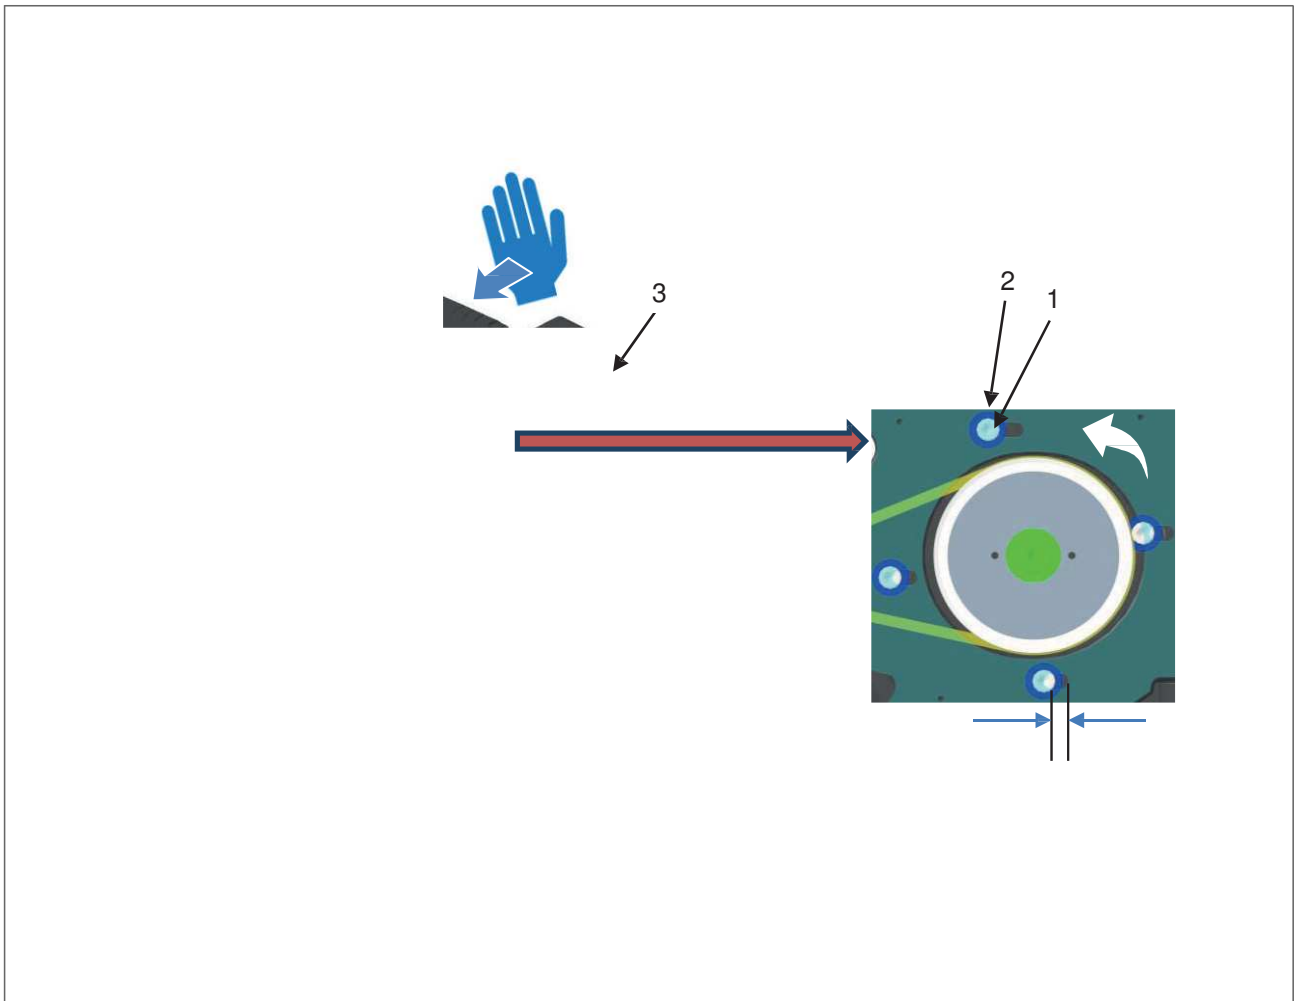

Figure 6 – Motor screw removal
1. To enable belt removal, using an 8mm Allen key loosen the 4 screws (Figure 6 items 1 & 2) which secure the motor and pulley to the bearing flange (Figure 6 items 3).
1. Install belt tighten tool (Figure 6, Item 1) and clamp VSM mini (Figure 6, Item 2) on the belt, switch it on, give a little push to the belt, measure input value (Hz).